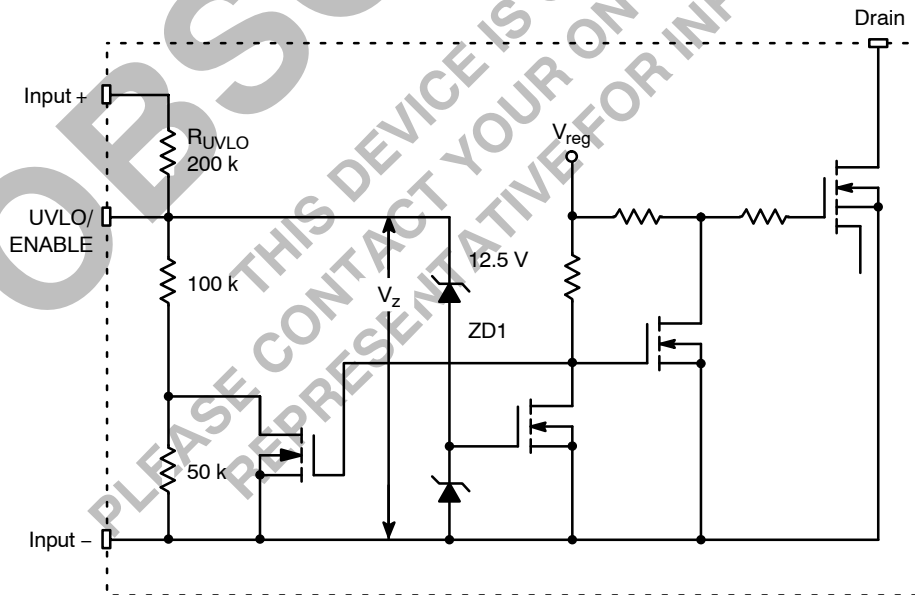

Figure 17. Undervoltage Lockout Circuit
**Undervoltage Lockout:** The UVLO circuit holds the chip off when the input voltage is less than the turn-on limit. It includes internal hysteresis to assure clean on/off switching. An internal divider sets the turn-on voltage level at 46 V. This voltage can be reduced by adding an external resistor from the UVLO pin to the Input + pin. The equivalent circuit is shown in Figure 17.